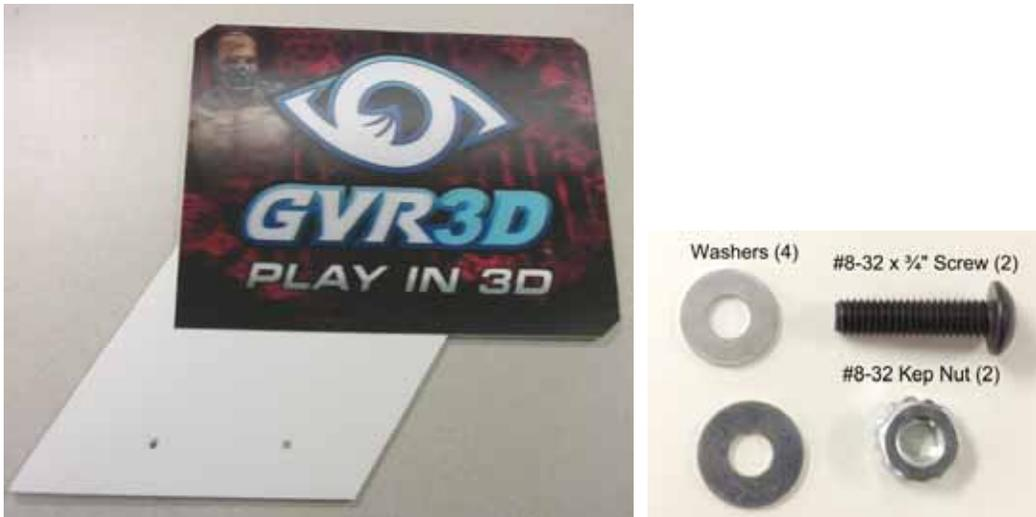

Figure 11: Optional GVR3D Sign and Mounting Hardware
1. Refer to Figure 11 for the hardware used to mount the GVR3D Sign. Position the GVR3D Sign on the top right corner of the marquee assembly so that the pre-drilled holes align.
2. Place a washer on each of the two (2) #8-32 x 3/4" screws and insert them through the pre-drilled holes. Secure the sign from the back of the marquee assembly with a washer and Kep nut.